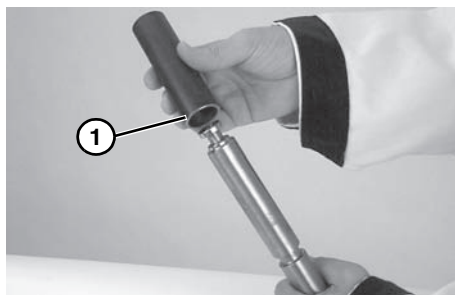

Figure 44
4. Slide sleeve (**Figure 44, item 1**) of tool over bearing.